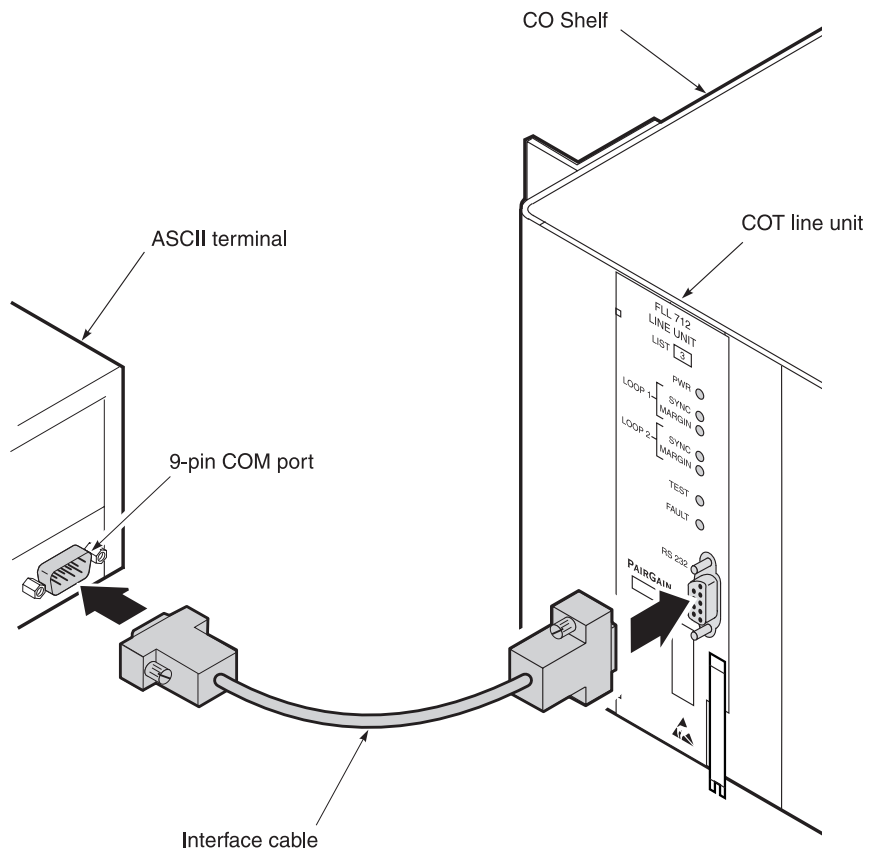

Figure 28. Connecting an ASCII Terminal to a Line Unit
- If the PG-Flex system does not have an alarm unit or PGTC interface installed, connect the RS-232 cable to the appropriate system line unit (Figure 28).